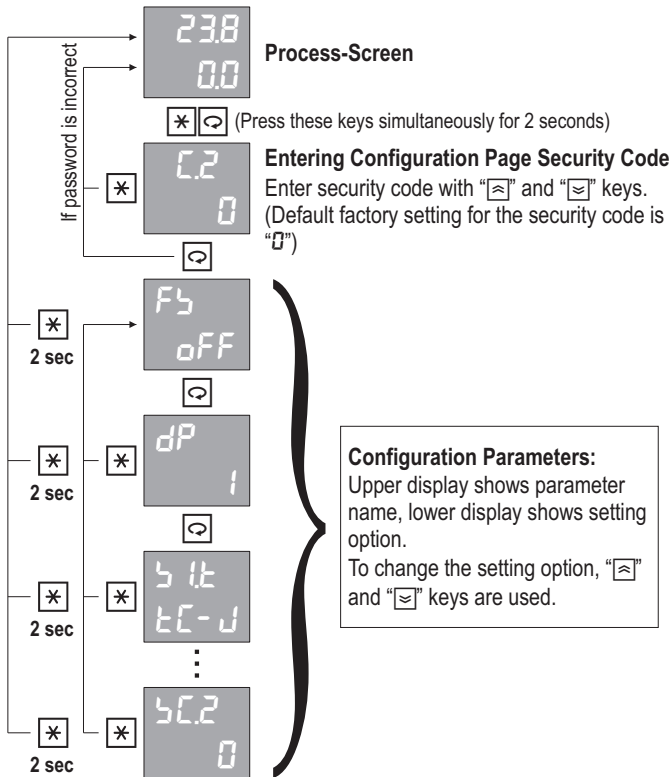

Figure-3
- ◆ Below, you can find a graphical representation of these instructions in **Figure-3**.